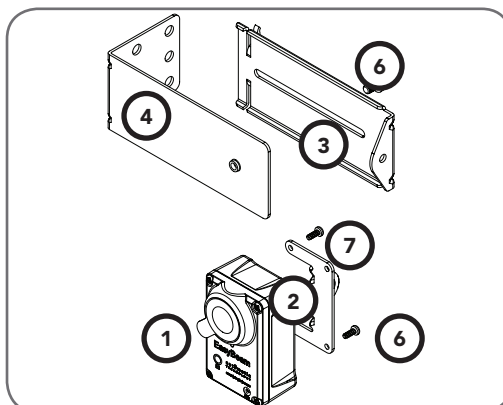

Fig 6.1
- Attach the mounting bracket (4) to the adjustment bracket (3) with the pan head screw (6). (Fig. 6.1)